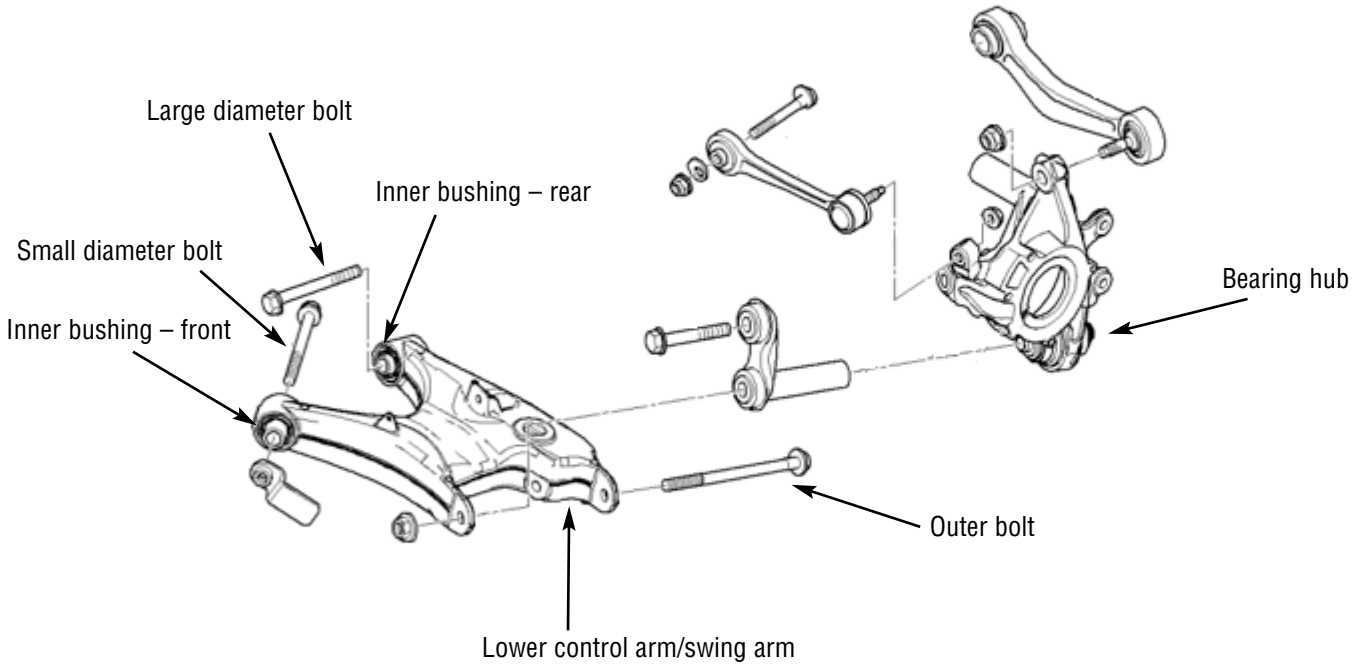

Figure 1
3. Locate the lower control arms/swing arms (see Figure 1).
6. Using the arbor rings, press the new bushings into place. Install the bushings with the smaller diameter bolts to the front of the arms. Install the bushings with the larger diameter bolts to the rear of the arms (Figure 1).